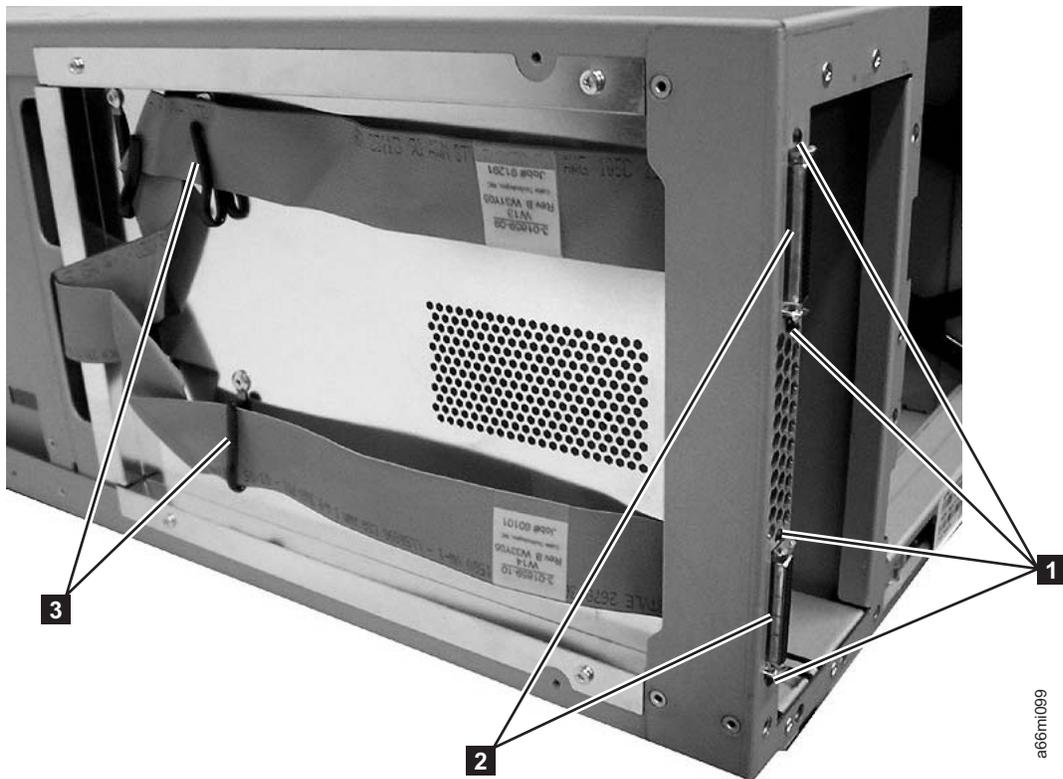

Figure 8-68. D-shell connectors and flat cables, side cover removed
- c. Remove the terminator(s) from the 2 D-shell connectors ( **2** in Figure 8-68 on page 8-71) on the back of the control module, if necessary.
- d. Remove the 4 T6 Torx screws (**1** in Figure 8-68) holding the 2 D-shell connectors (**2** in Figure 8-68) on the back of the control module. Carefully remove the 2 flat cables (**3** in Figure 8-68) and D-shell connectors from under the cable retainers on the side of the enclosure.